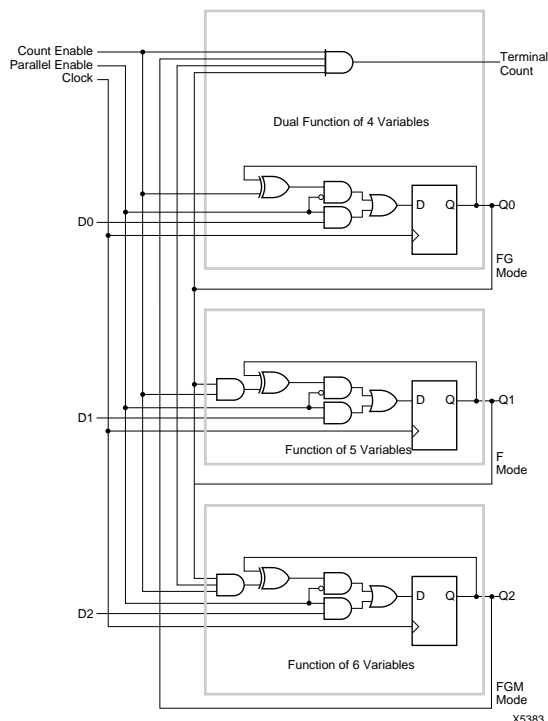

Figure 7: Counter.
The combinatorial-logic portion of the CLB uses a 32 by 1 look-up table to implement Boolean functions. Variables selected from the five logic inputs and two internal block flip-flops are used as table address inputs. The combinatorial propagation delay through the network is independent of the logic function generated and is spike free for single input variable changes. This technique can generate two independent logic functions of up to four variables each as shown in Figure 6a, or a single function of five variables as shown in Figure 6b, or some functions of seven variables as shown in Figure 6c. **Figure 7** shows a modulo-8 binary counter with parallel enable. It uses one CLB of each type. The partial functions of six or seven variables are implemented using the input variable (E) to dynamically select between two functions of four different variables. For the two functions of four variables each, the independent results (F and G) may be used as data inputs to either flip-flop or either logic block output. For the single function of five variables and merged functions of six or seven variables, the F and G outputs are identical. Symmetry of the F and G functions and the flip-flops allows the interchange of CLB outputs to optimize routing efficiencies of the networks interconnecting the CLBs and IOBs.